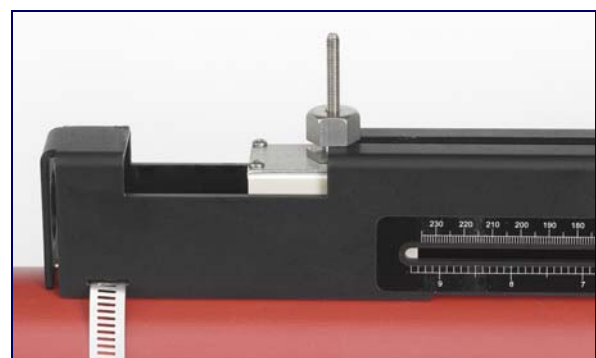

Figure 2.10
3. Thread the downstream transducer cable (blue) through the right-hand end of the guide rail and up through the rectangular opening at the top left-hand end of the guide rail, as shown in Figure 2.10.
- Following the method used to insert the downstream transducer, carefully lower the transducer assembly through the rectangular opening until the slots in the side of the transducer clamp align with the edges on the top of the guide rail (Figure 2.10).